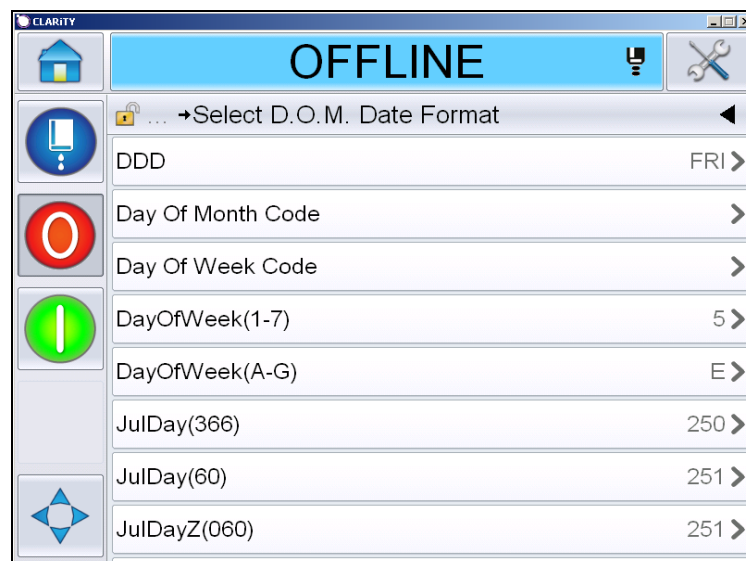

Figure 5-27: Date Format Page
- 6 Select the required date prefix. For example, selecting D.O.M. Displays the *Date Format* page for D.O.M (Figure 5-27). For information on date formats refer Table 5-13 on page 5-41.